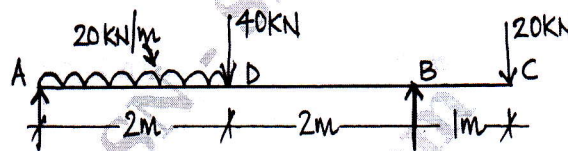

Fig Q7(b)
- b. Draw SFD and BMD for simply supported beam shown in Fig Q7(b)